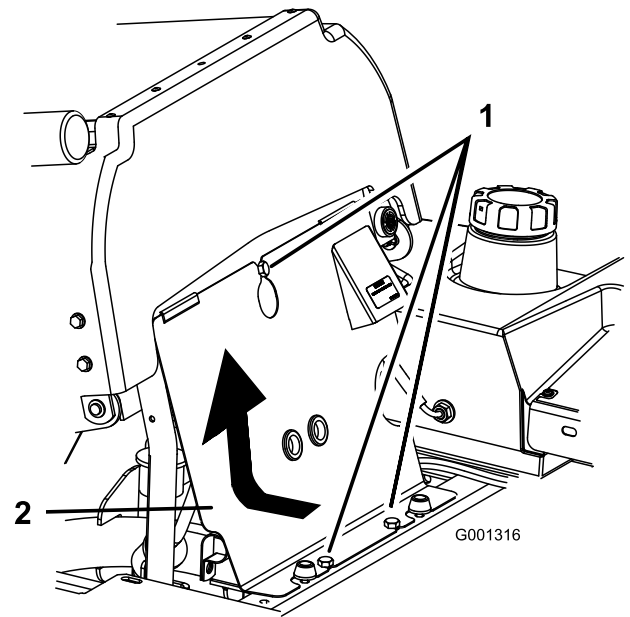

Figure 61
3. Tilt the seat forward, loosen the bolts and remove the front engine panel (Figure 61).